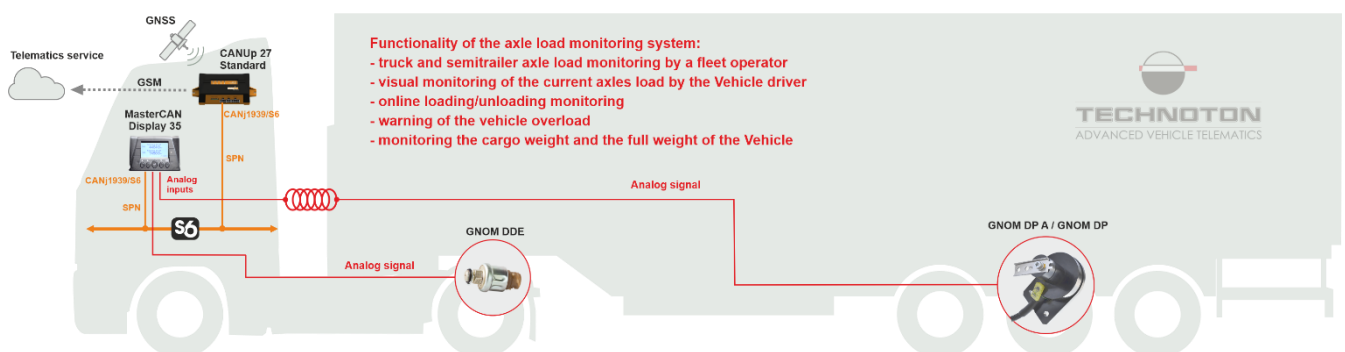

Figure 5 — Example of GNOM sensors application to monitor load on axles of the truck with a non-interchangeable semitrailer
2) To monitor axles load of a road train with a non-interchangeable semitrailer (see figure 5).